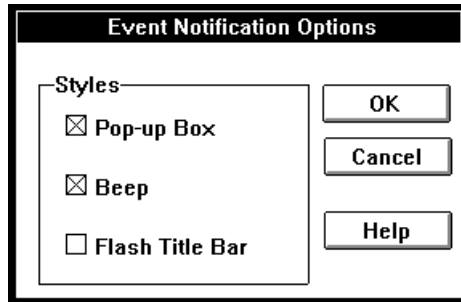

Figure 2-6. Event Notification Options Dialog Box
- 2 Click **Notification**; the Event Notification Options dialog box appears, as shown in Figure 2-6.
- 3** Click **Notification** to change the way in which you are alerted of event notifications sent from servers. The Event Notifications Options dialog box appears, as shown in Figure 2-6 on page 2-10. Select one or more of the available options.